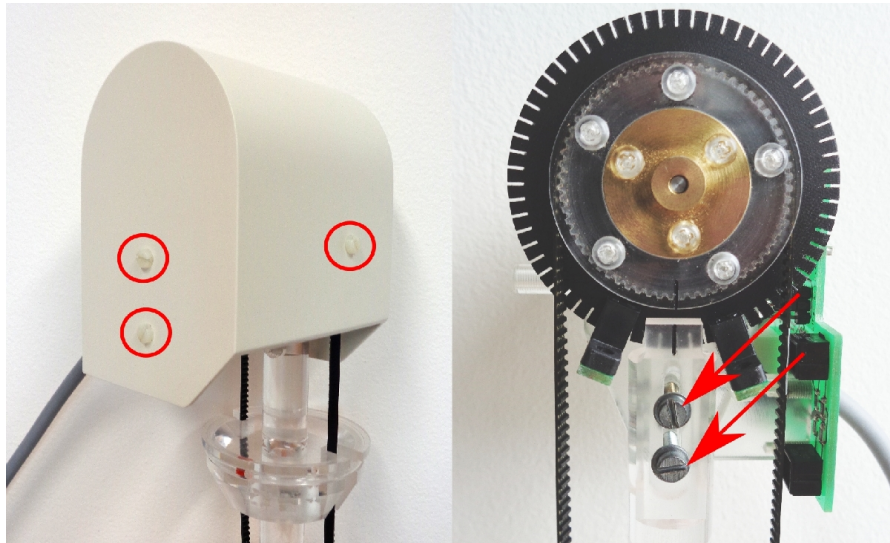

Figure 1: Left - white lid; Right - screws
- Unscrew three plastic screws on the lid of the rotator, marked by red circles in Figure 1. Be careful not to lose the screws or plastic washers. Pull the lid gently up to remove it.
- Loosen a little bit two screws (Figure 1, right side, marked by red arrow), but do not remove them. After that the strain of the tooth belt eases and the specimen shell can be removed from its bearing.